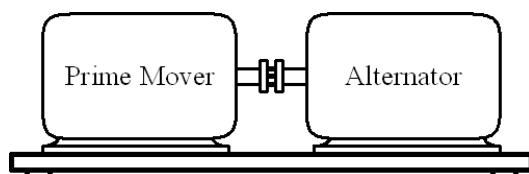

Figure 1
1. Couple the single phase drive unit to the alternator as shown in figure 1.